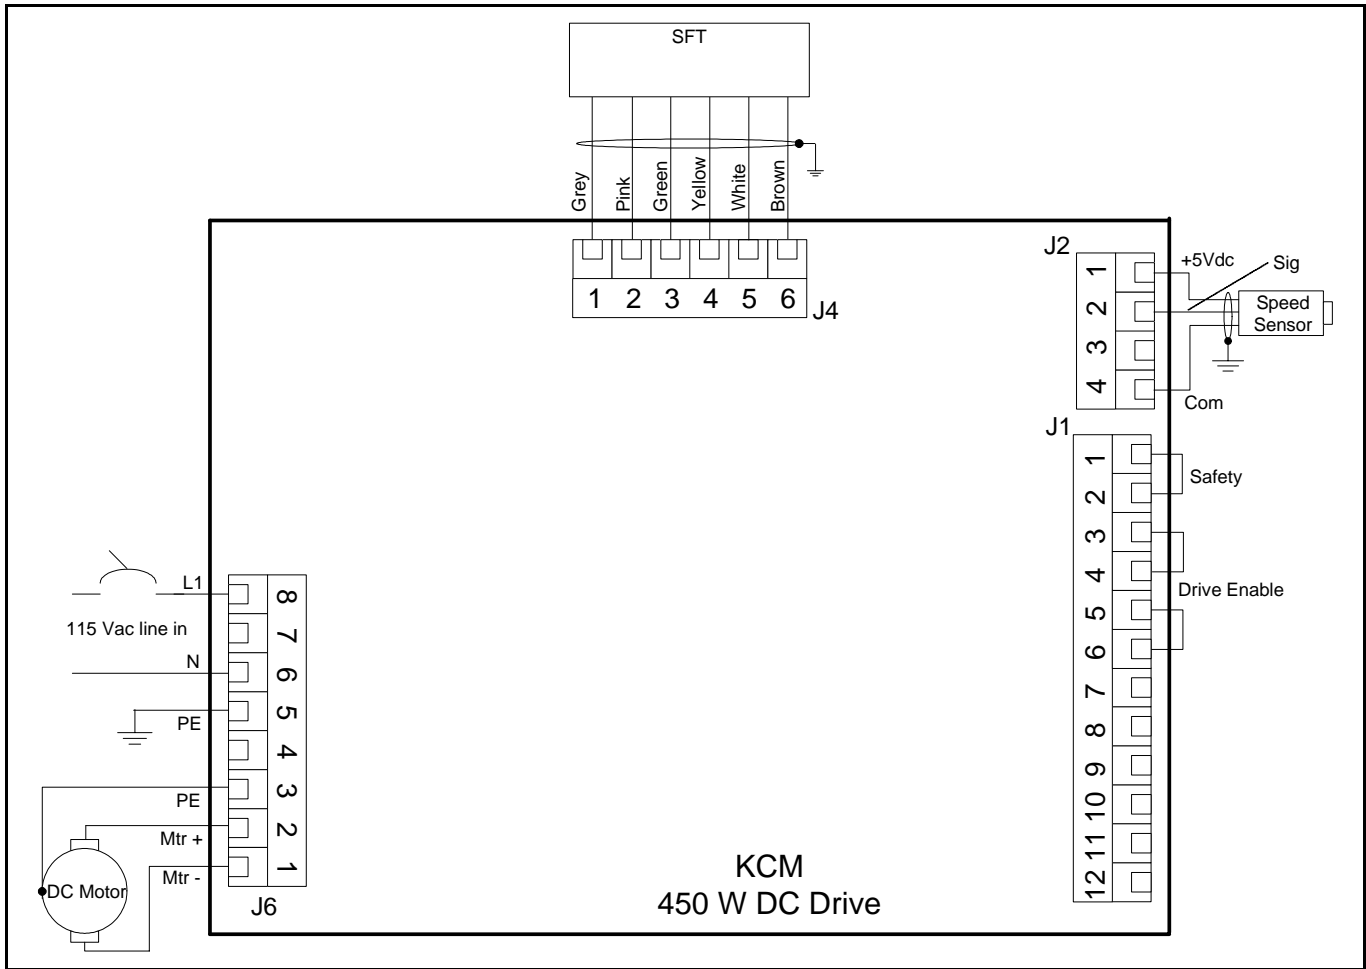

Fig. 12.13 450 watt DC drive wiring example
- Not all terminal blocks are shown in this example.(Fig.12.13)